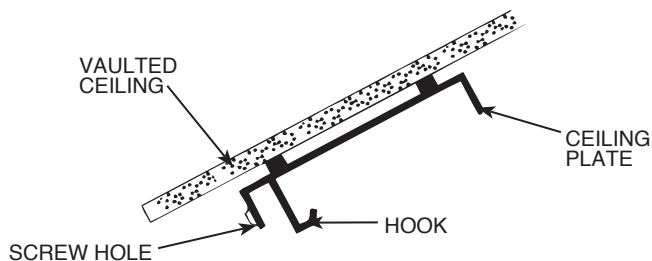

Figure 4B. Vaulted Ceiling
**NOTE:** When mounting the fan on a vaulted ceiling, make sure that one set of elongated slots in the ceiling plate is aligned vertically with the ceiling joist, or horizontally with the cross brace if a cross brace is used. Be sure one of the threaded screw holes in the side of the ceiling plate is facing down. See Figure 4B. The hook in the ceiling plate should be in the down position.